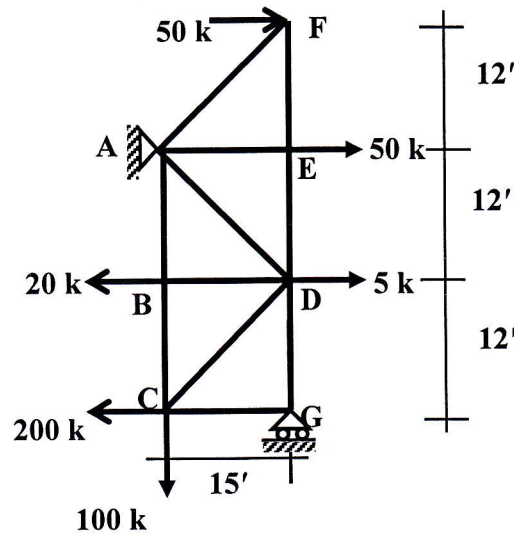

Figure 4
- [4] Determine the **Horizontal (rightward) and Vertical (downward) deflection of joint D** of the truss shown in Figure 4 by using the Virtual Work Method. Consider,  $E = 29 \times 10^3$  ksi, truss members area  $A = 2.5$  in2 except member AE which has an area of 4 in2.